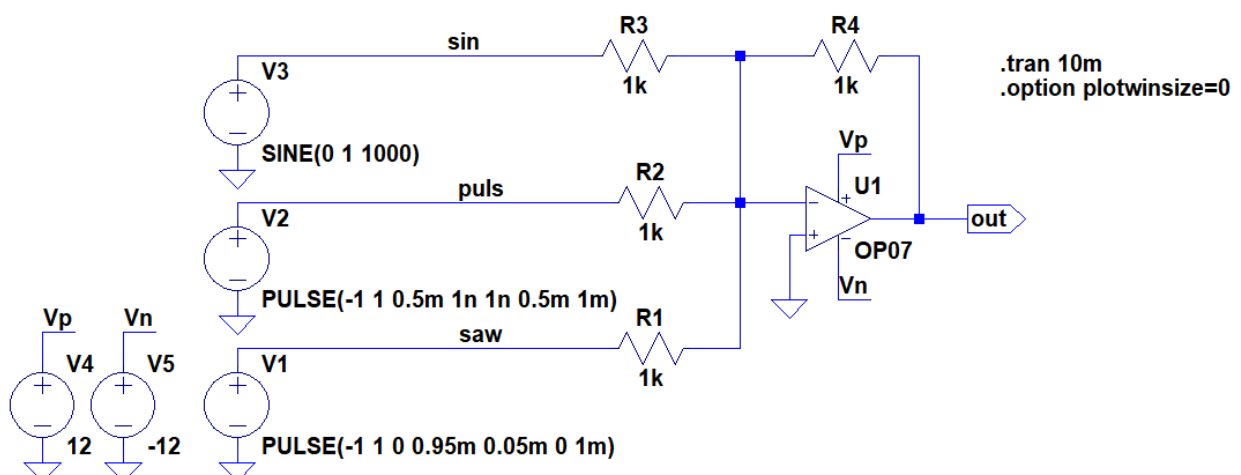

Fig. 4. Voltage adder.
- Create a voltage adder circuit according to Figure 4.
- Set the values of the elements according to Figure 4.